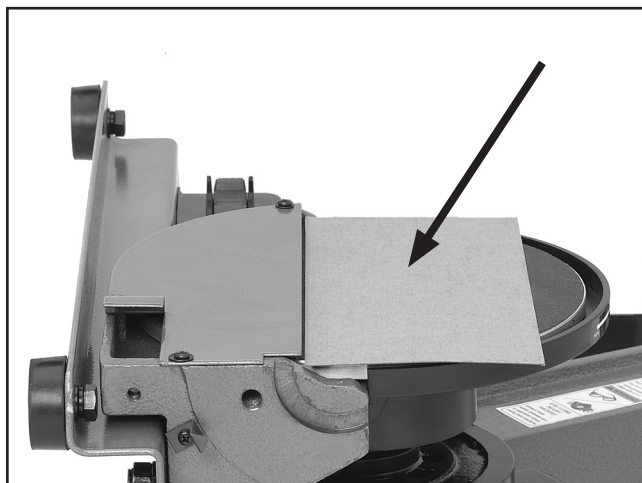

Figure 15. Using thin cardboard (approximately $\frac{1}{16}$ " thick) for table and sanding disc clearance guage.
15. Lay the sander down on a flat surface, as shown in **Figure 15**, and place a thin piece of cardboard approximately $\frac{1}{16}$ " thick over the sanding disc. This piece of cardboard will act as a spacer when you install the disc table.